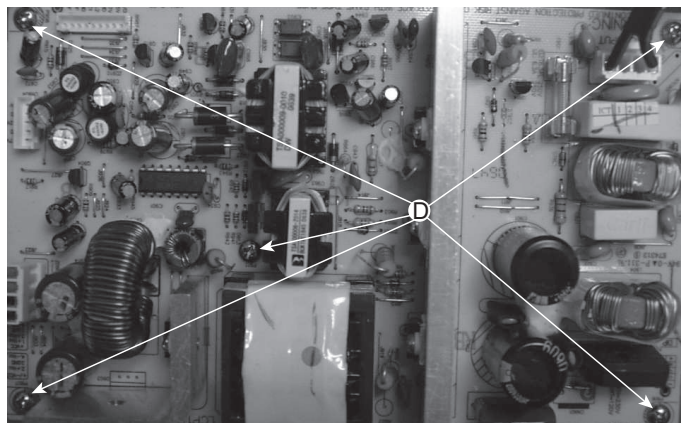

Figure 7
- 1) Loosen 5 screws "D" on the top of the Power Board as shown in figure 7